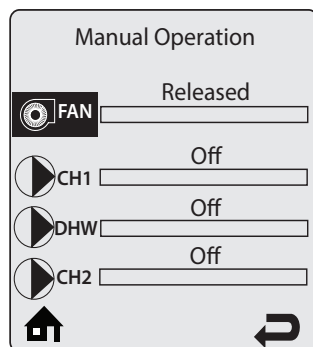

Fig. 6: Manual Operation
4. Press the OK button while the FAN icon is highlighted to manually fire the burner and power the CH1 circulator (see Fig. 6)